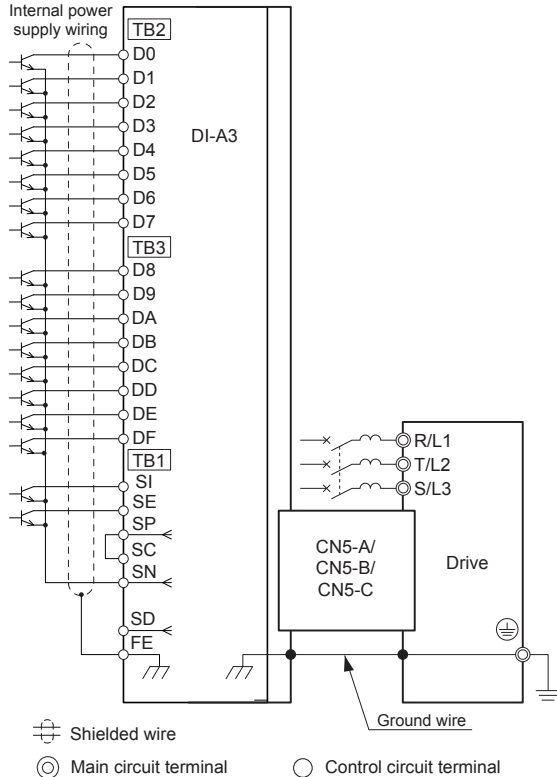

Figure 8 Option Connection Diagram
5. Wire the customer-supplied digital input signal to the terminal blocks on the option. Refer to **Figure 8** for wiring instructions.